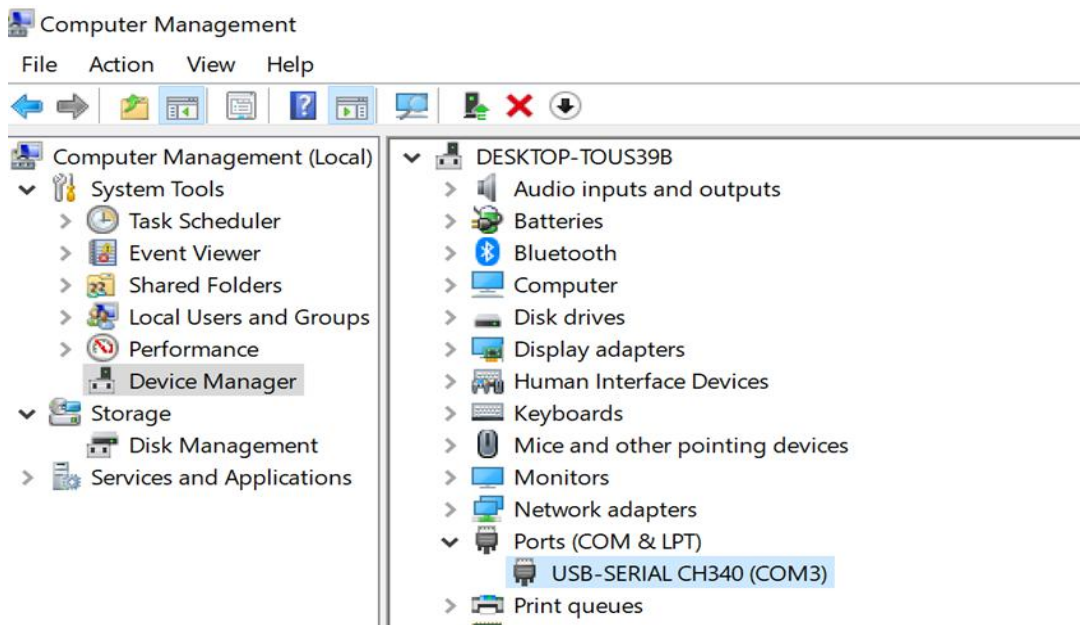

Fig. 3.2.1
(1) Software installation: Win7 / Win8 / Win8.1 / Win10 system
(2) Connection: connect the data cables or wireless data transmission. USB cable connects to your computer.
(3) Driver Debugging: Right click "My Computer" to "Computer management" , click "Device Manager". User can find "USB Serial Port (COM XX)" which indicates driver has been installed automatically , as shown in Fig. 3.2.1